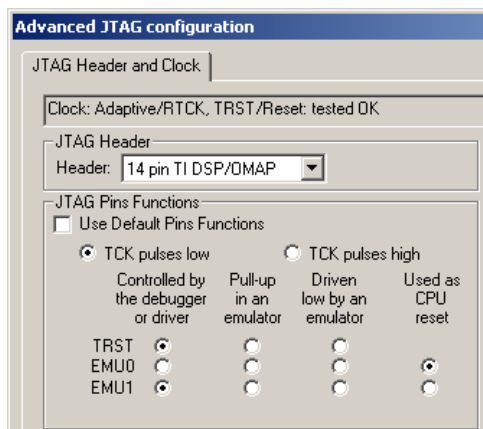

FIGURE 35 Configuring the JTAGjet-eBinder driver to use the EMU0 signal as the CPU reset signal (EmuDiag for the JTAGjet-eBinder).
- Note 4** Certain JTAGjet driver packages may not easily allow configuring EMU0 and EMU1 as nSYSRST. Therefore it is recommended to leave the DIP switch in its default position. The software is unable determine the position of this switch automatically. When SW2 or SW4 are ON, the software needs to be configured accordingly. Sample settings that allow EMU0 to act as a CPU reset signal (nSYSRST) are shown in **Figure 35**.